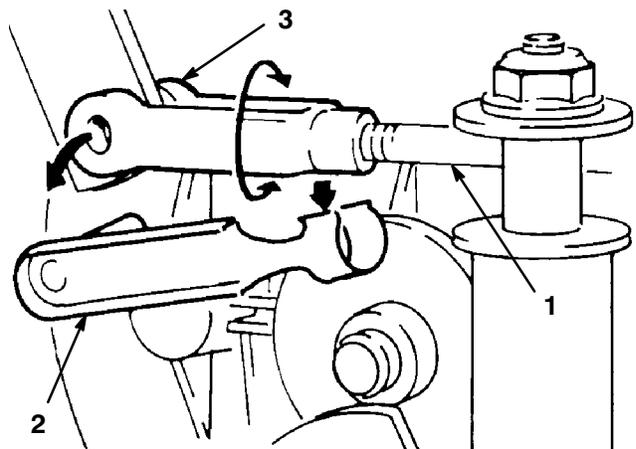

**Figure 29**
7. Loosen the screws securing the two engine pulley belt guides and move the guides away from the pulley. Remove the deck drive belt from the engine pulley (Fig. 29).
12. Push out on the belt as shown in Figure 29, and check the clearance between the outside of the belt and the inside of the idler pulley (Fig. 29). The clearance should be approximately 1/8 in. (3 mm).